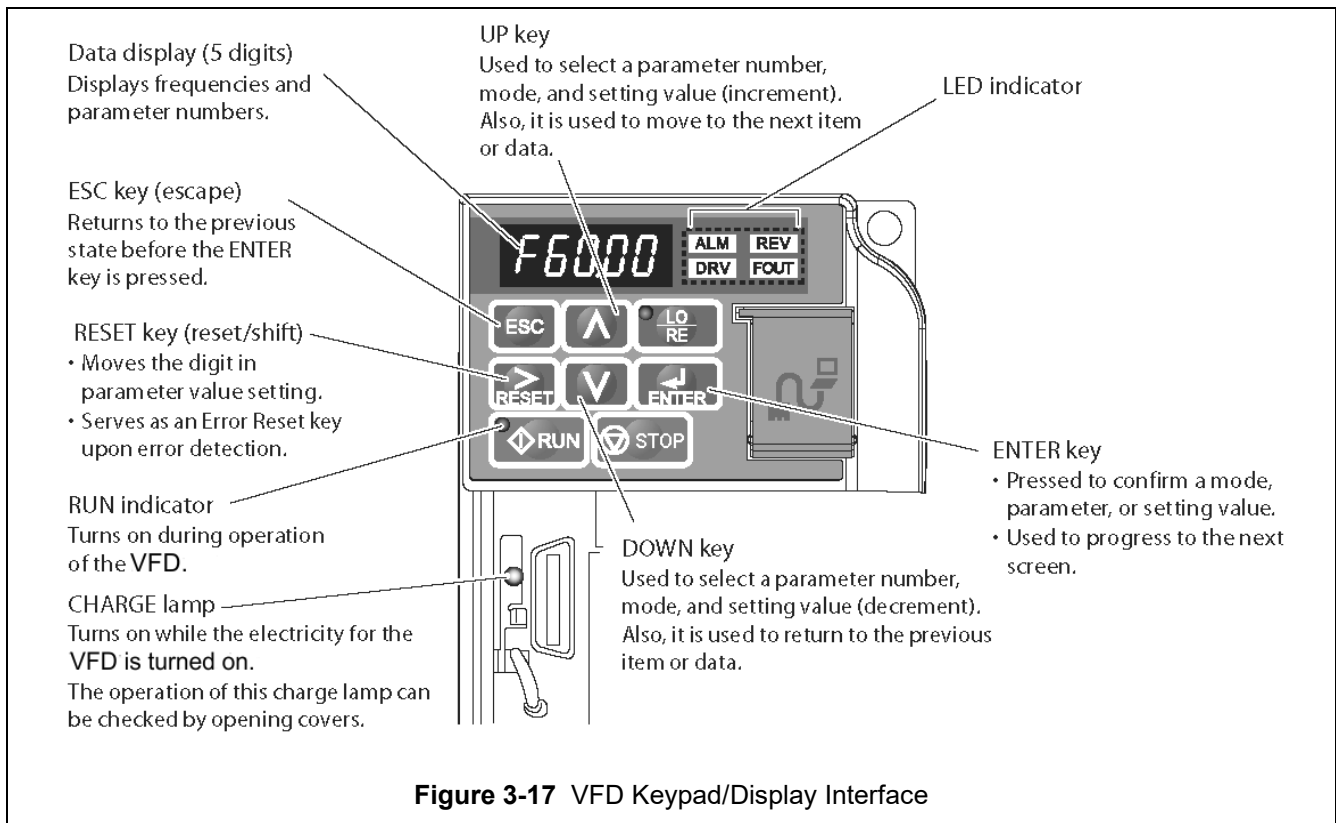

Figure 3-17 VFD Keypad/Display Interface
- 3.8.7 The VFD is controlled by a Keypad/Display Interface. Refer to **Figure 3-17** for Keypad/Display Interface functions and descriptions.
3.8.9 During operation the data display will exhibit illuminating or blinking data as shown in **Figure 3-17**.